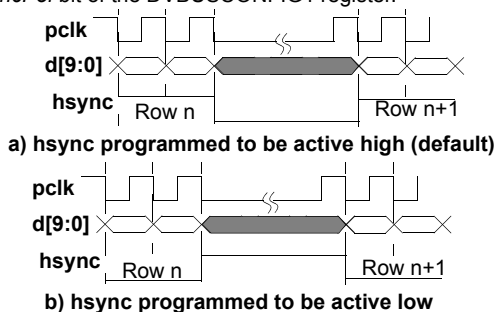

Figure 44. **hsync** in Level Mode
- **Level mode** should be used when the pixel clock, **pclk**, is programmed to operate in *free running mode*. In level mode the **hsync** output pin will go to the specified level (high or low) at the start of each row and remain at that level until the last pixel of that row is read out on **d[9:0]** as shown in Figure 44. The **hsync** level is always synchronized to the active edge of **pclk**. The **hsync** pin is put into level mode by setting the *HsyncMode* bit of the DVBUSCONFIG1 register to a logic 0. The active level of the **hsync** pulse is programmed using the *HsyncPol* bit of the DVBUSCONFIG1 register.